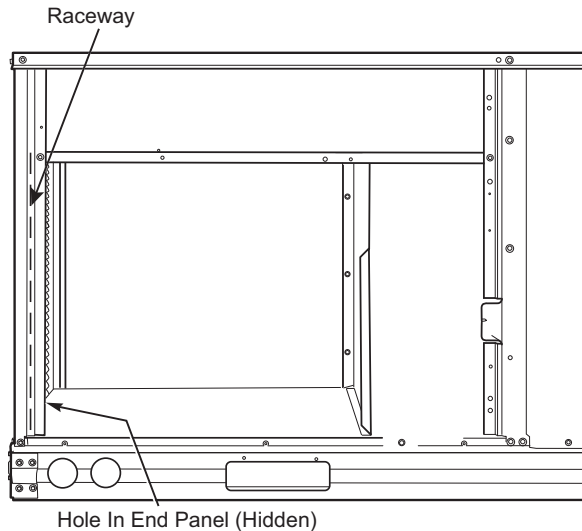

Fig. 28 — Field Control Wiring Raceway
Pass the thermostat control wires through the hole provided in the corner post, then feed the wires through the raceway built into the corner post to the control box. Pull the wires over to the terminal strip on the upper-left corner of the Unit Control Board. See Fig. 28.
2. Feed wires through the raceway built into the corner post (see Fig. 28) to the 24-v barrier located on the left side of the control box. The raceway provides the UL-required clearance between high-voltage and low-voltage wiring.